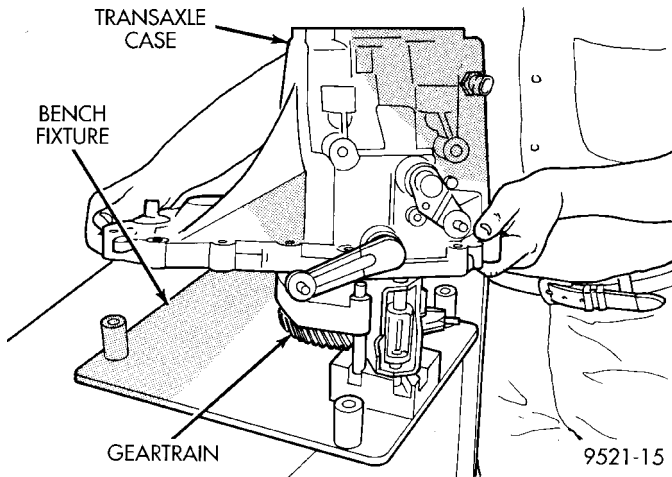
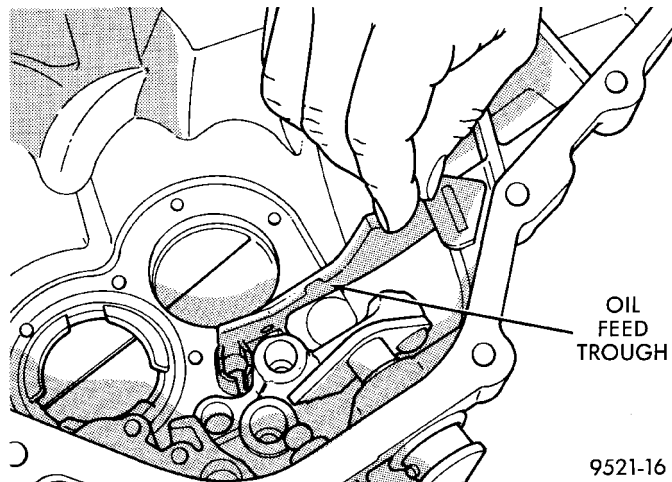

Fig. 47 Transaxle Case Removal
Fig. 48 Oil Feed Trough
(16) Remove transaxle from press.
(17) Carefully remove transaxle case from the shaft assemblies and bench fixture (Fig. 47). Be sure the oil-feed trough to the end bearings is not damaged (Fig. 48).